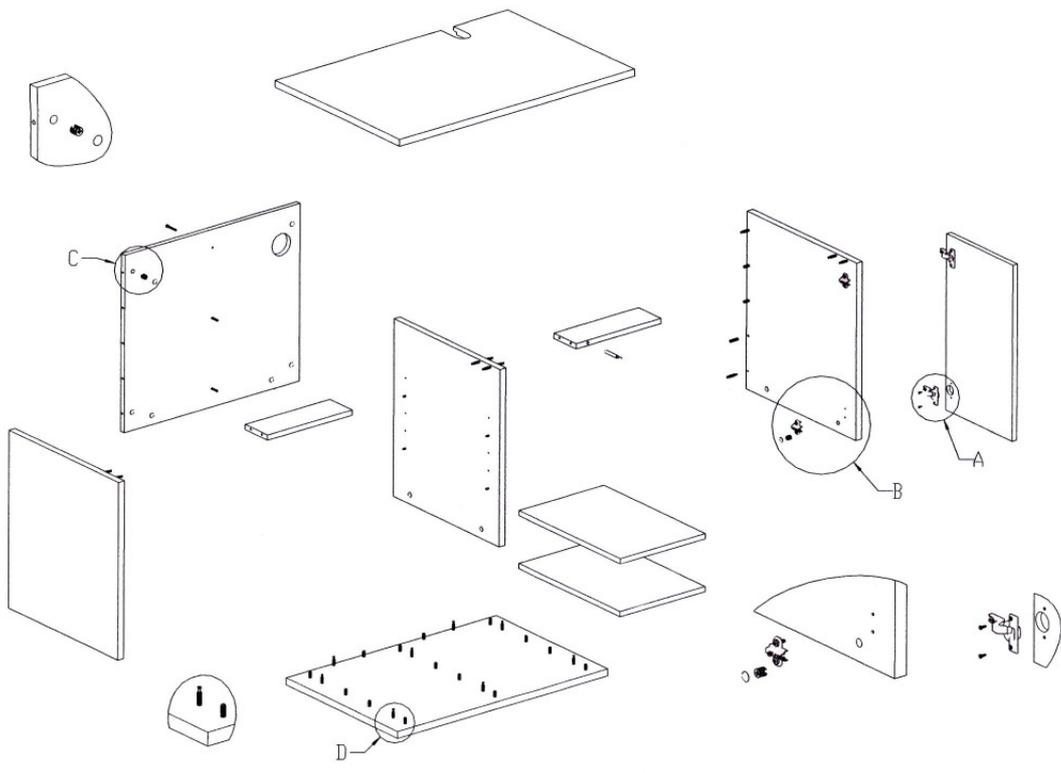

Fig. 1: Cabinet
2. Cabinet's assembly (refer to Fig. 1)
The assembly of the cabinet is done according to the following drawing (Fig. 1). **The upper plate hasn't to be screwed on. It has got four retaining blocks at the bottom so that it cannot slip.** Take care that the bore-hole of the cabinet plate is located on the right side of the cabinet. The door where you can hide the socket board has to be fixed on the right side as well.